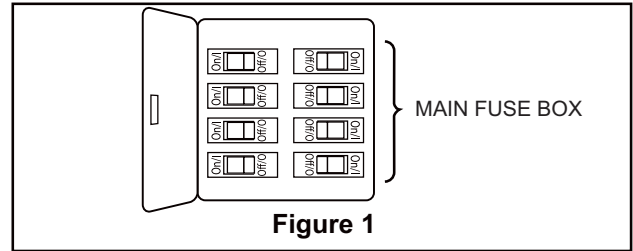
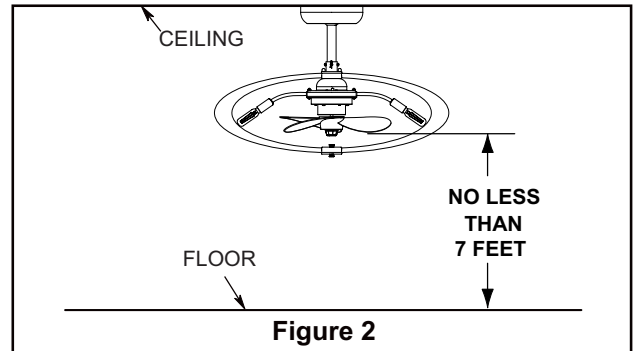
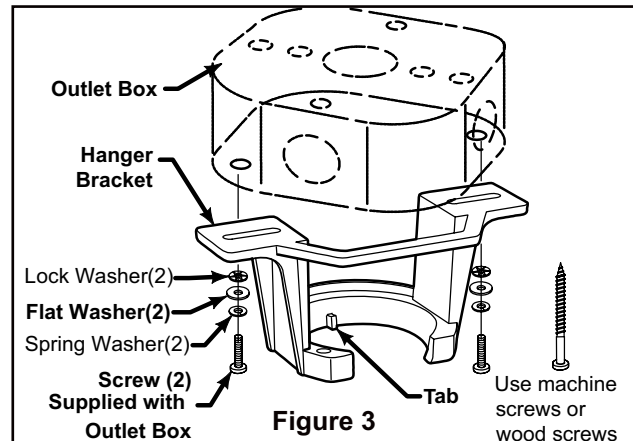

Figure 1
Figure 2
Figure 3
Your new ceiling fan will require a grounded electrical supply line of 120 volts AC, 60 HZ, 15 Amp Circuit. Electrical code requires use of a fan-rated outlet box to support the extra weight and motion associated with a ceiling fan. A fan-rated box will be labeled as such and typically supports up to a 70lbs ceiling fan. Fan-Rated Outlet Boxes vary in ratings and design. Ensure the ratings of your ceiling fan outlet box meet the requirements for the ceiling fan being installed. Figure 1, Figure 2 and Figure 3 depicts different structural configurations that may be used for mounting the outlet box.
### Low-profile use (Figure 1)
### Deep-profile use (Figure 2)
### Brace use (Figure 3)
- 1. Remove the hanger ball portion from the dowrod/hanger ball assembly by loosening the set screw in the hanger ball until the ball falls freely down the dowrod. Remove the pin from the dowrod, then remove the hanger ball. Retain the pin and hanger ball for reinstallation in Step 6. (Figure 1)
- 2. Remove the hairpin clip and clevis pin from the bottom of the dowrod. Retain the pin and clip for reinstallation in Step 4. (Figure 2)
- 3. Loosen the two set screws in the dowrod support of the motor assembly. Route the black, white, blue, green wires through the dowrod. (Figure 3)
To avoid possible fire or shock, be sure electricity is turned off at the main fuse box before hanging. (Figure 1)
The fan must be hung with at least 7' of clearance from floor to blades. (Figure 2)
- 1. Securely attach the hanger bracket to the outlet box using the outlet box screws and washers supplied with the outlet box. (Figure 3)
- 1. To set the code on receiver unit, slide dip switches to the same positions as set on the remote. (Figure 1)
To avoid possible electrical shock, be sure electricity is turned off at the main fuse box before wiring. (Figure 2)
- 2. Slide the receiver into the hanger bracket before wiring as shown in figure 3.
1. Align the canopy hole with the screw hole of the hanger, Install using the 2 screws previously removed and lock in 2 screws to fix the canopy, taking care not to pinch the wires. Tighten screw. (Figure 1)
Align the U-slot of the fan blade with the locating pin of the motor rotating shaft. The pin should sink into the U-slot of the fan, then insert the hairpin into the side hole of the motor rotating shaft and clamp it on the motor rotating shaft. Finally, screw the fan nut cover into the middle shaft of the motor and tighten it counterclockwise to fix the fan blade. (Figure 2)
- 2.** Restore electrical power to the outlet box by turning the electricity on at the main fuse box. (Figure 2)
- 3.** To make fan operational, install 6F22 9V battery (included) in hand-held remote transmitter, with fan power off. Then follow the remote code setting process. (If not used for long periods of time, remove battery to prevent damage to transmitter). Store the remote away from excessive heat or humidity. (Figure 3)
The U-slot of the fan blade must be installed on the locating pin of the motor rotating shaft, otherwise the fan cannot run.(Figure 2)